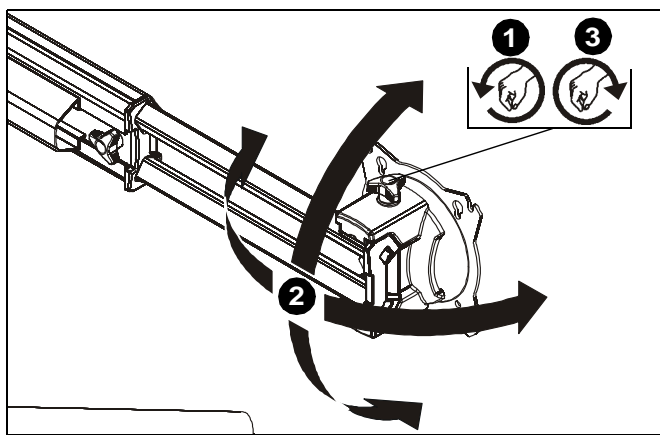

Figure 25
1. Loosen knob on top of faceplate assembly. (See Figure 25)
2. Adjust pitch, roll and/or yaw as desired. (See Figure 25)
3. Tighten knob to secure desired faceplate position. (See Figure 25)